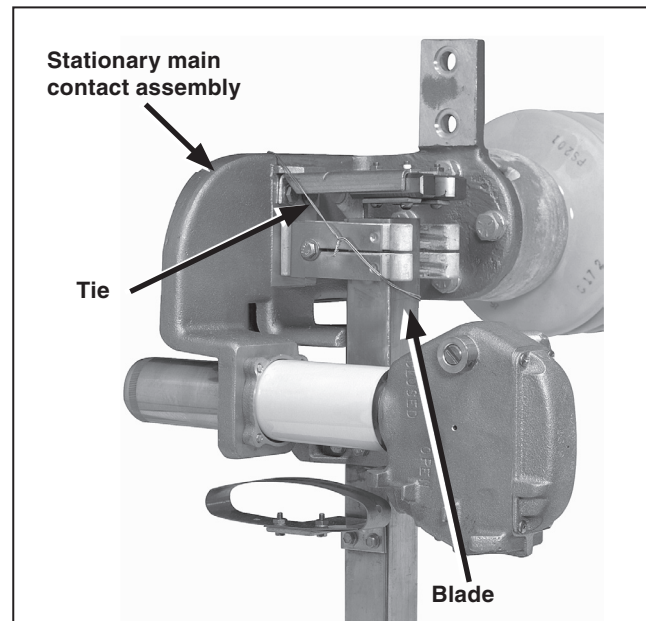

Figure 5. Tying the switch blade to the stationary main contact assembly.
STEP 4. To minimize time-consuming final adjustments, make sure each switch pole is fully closed and its toggle mechanism is against the closed stop. Tie the switch blades to their stationary main contact assemblies and the toggle mechanisms to their stops. See Figure 5.